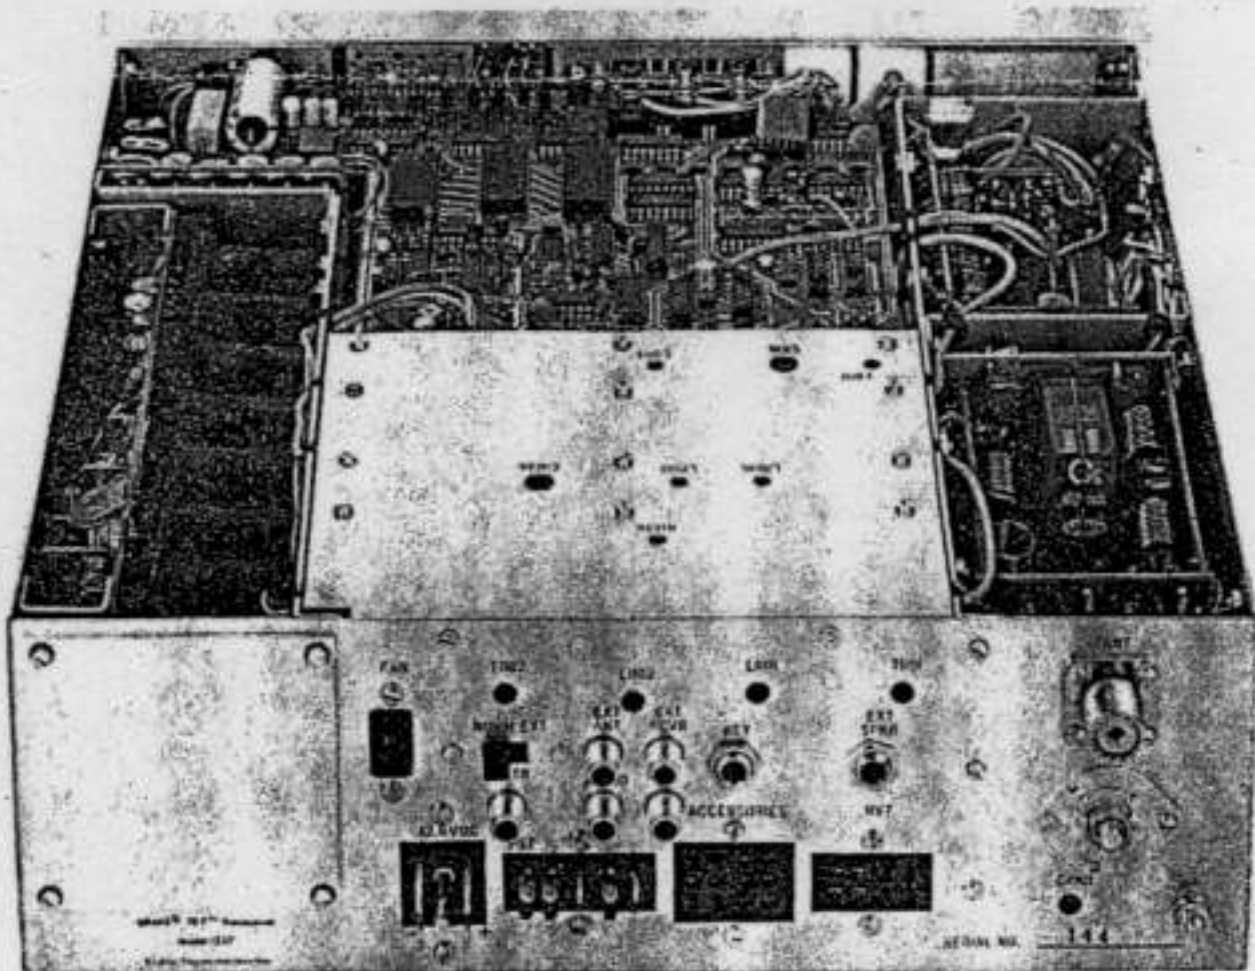

Figure 1—Top Cover (main card cage)
- 3) Refer to figure 1 and remove the top cover from the main card cage by removing 14 screws. (*12 on top and 2 on the rear.*)